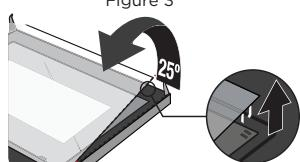

Figure 4
4. Separate the glass carefully by lifting it approximately 25°.(Figure 4)